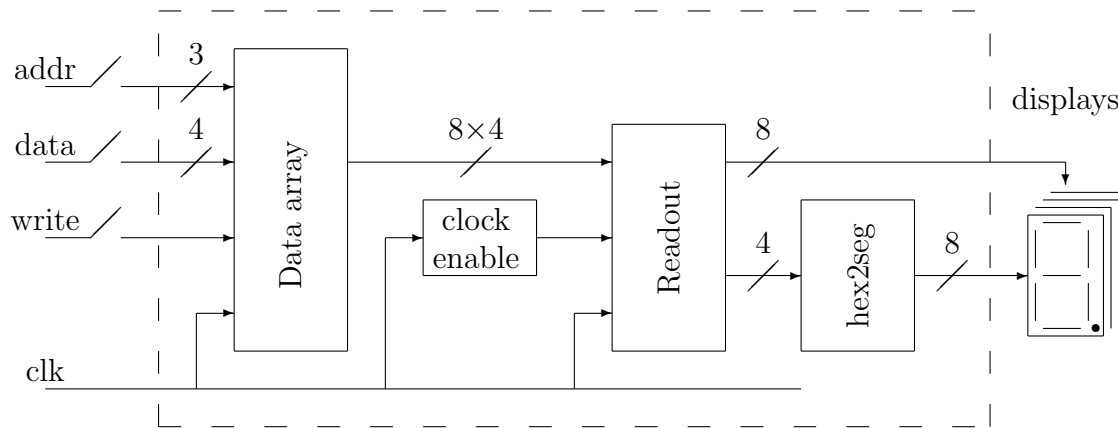

Figure 1: Tentative system block diagram. The blocks involved are described further in Appendix A. The dashed box indicates the FPGA contents.
Your task is to design a small system that lets you manually store a number of data words and display them on 7-segment LED data displays. The block diagram is shown in Figure 1; the blocks to be implemented are described further in Appendix A. The board has sixteen switches, eight 7-segment displays, and several push buttons; all of these will not be used in this simple design.
Preparation: Work through the design with your lab partner to produce implementations and test benches for each block needed for the system. It is recommended that you stay close to the block diagram of Figure 1; if you stray from it, the lab TAs will need more time to familiarize themselves when you ask for assistance. Appendix A lists additional considerations for each of the blocks in Figure 1.
- Create a top-level design as in Figure 1, using your design blocks as components, and test-bench and *do* files for it. Simulate the top-level design to verify its functionality.
- Using the information from “Introduction to Xilinx Vivado”, assign pins to ports as needed to realize the system in Figure 1. *Document your choices of slide switches and push buttons.*